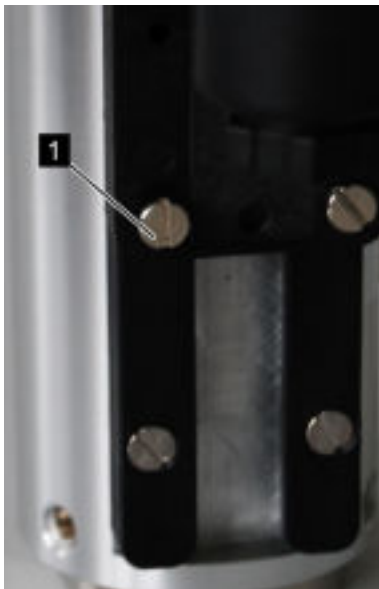

Fig. 38: Loosen set screws
2. ➤ Loosen the set screws of the switch contact (Fig. 38/1) using a flat-bladed screwdriver
- 6.  Tighten the set screws of the switch contact (*Fig. 38/1*) using a flat-bladed screwdriver. When doing so, observe the correct tightening torque of the screws.